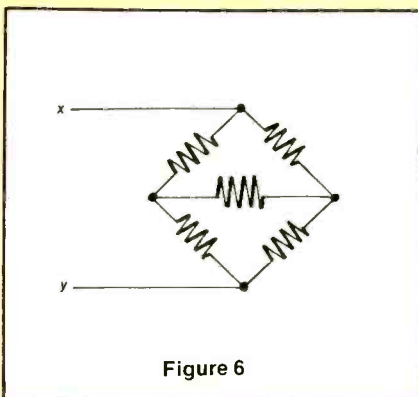

Figure 6
9. 1000Ω The resistors form a balanced Wheatstone Bridge (see Figure 6). No current flows in the center resistor, so it is a virtual open circuit. In other words, the center resistor can be removed without affecting the circuit resistance. So, there are two parallel branches—each having a resistance of 2000Ω . The parallel resistance is 1000Ω .